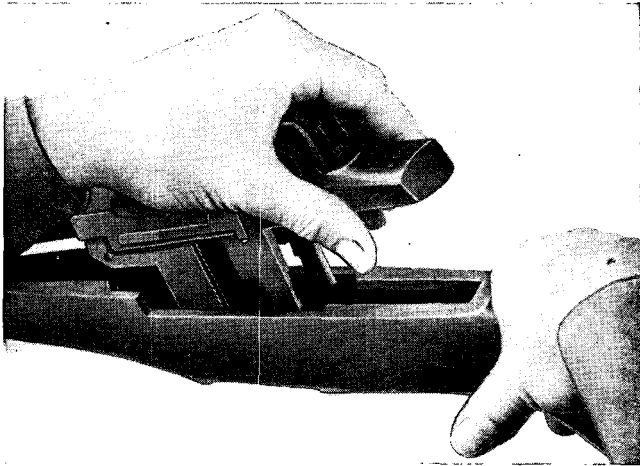

Figure 7. Separating the barrel and receiver group from the stock group.
c. With your left hand, grasp the rear of the receiver and raise the stock. With your right hand, give a downward blow, grasping the small of the stock. This will separate the two groups (fig. 7).